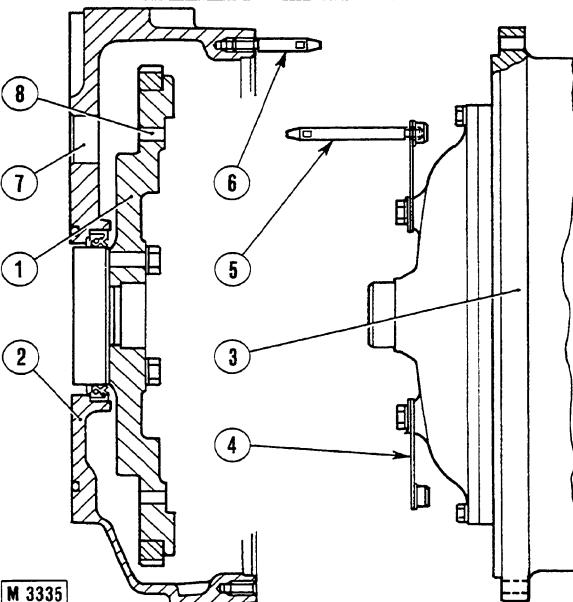

Fig. 3-4 - Transmission connection to engine.
- Install two pilot pins 75297152 (6, fig. 3-4) in two top flywheel housing holes.
- Turn flywheel until one of holes (8) is aligned with hole (7) on housing.
- Install pilot pin (5, fig. 3-4) 75297151 on flexible coupling (4) and turn coupling to align pin (5) with holes (8 and 7).
- Connect transmission housing (3) to flywheel housing (2), install capscrews and tighten to specified torque. Remove pins (6) and replace with cap-screws.
- Remove pin (5) through front aperture on flywheel housing and replace with a capscrew and washer, hand tightening only.
- Turn flywheel and hand tighten the remaining screws retaining coupling (4) to flywheel. When all screws are in position torque to 1.9 to 2 daN.m (14 to 15 lb ft).